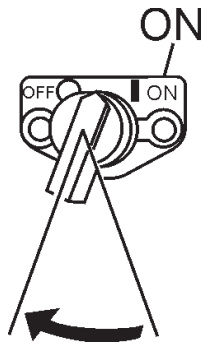

Figure 12. Engine ON/OFF Switch (ON Position)
2. Place the **engine ON/OFF switch** (Figure 12) in the "**ON**" position.